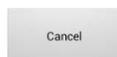

Figure 8. Sensor Check In Progress
- 6 Checking takes about 45-50 seconds (Figure 8 ❻).
❻ CareGuide™ Sensor Check